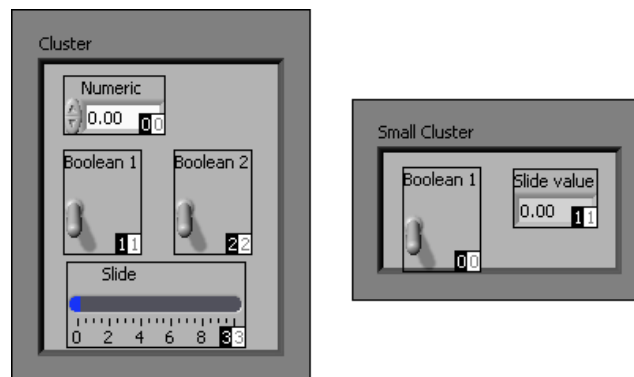

Figure 6.8
- (b) Confirm the cluster orders (Figure 6.8).